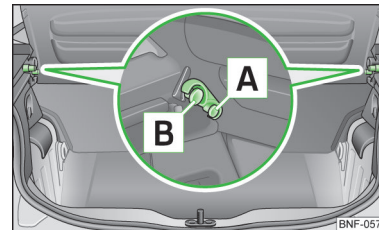

Fig. 69 Removing/installing the luggage compartment cover
- To fold up, raise the luggage compartment cover and press into the side holders A » Fig. 69 .
- To remove, move the luggage compartment downwards from the side holders B » Fig. 69 .
Make sure that the luggage compartment cover is correctly engaged in the side holders **B** » Fig. 69 - risk of damage to luggage compartment cover/luggage compartment.